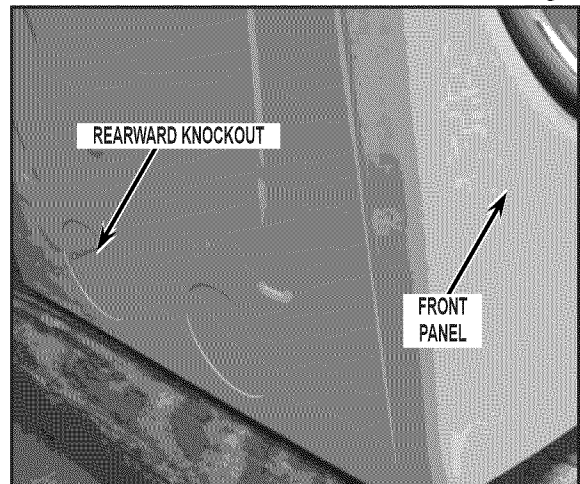

FIGURE 28
1. As you are facing the dryer, review the lower section of the left side panel. If two (2) knockout features are present remove the MOST REARWARD KNOCKOUT ONLY. See *Figure 28*.